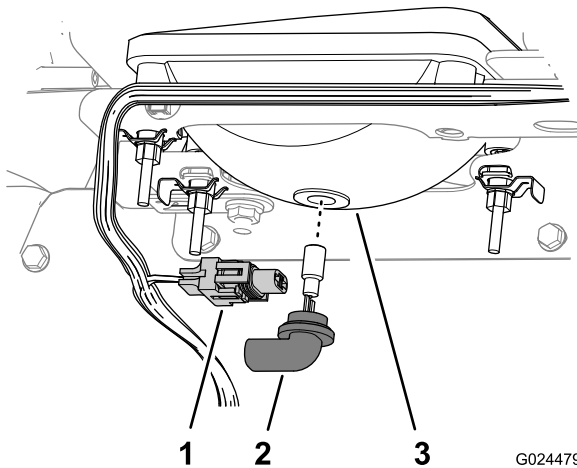

Figure 42
3. Disconnect the electrical connector for the harness from the connector of the lamp assembly at the back of the headlight housing (Figure 42).
4. Rotate the lamp assembly 1/4 turn counterclockwise and moving it rearward, out of the headlight housing (Figure 42).
5. Insert the new lamp assembly and headlight housing and align the tabs in the lamp assembly with the slots in the headlight housing (Figure 42).
6. Secure lamp assembly by turning it 1/4 turn clockwise (Figure 42).
7. Connect the electrical connector for the harness to the connector of the new lamp assembly (Figure 42).